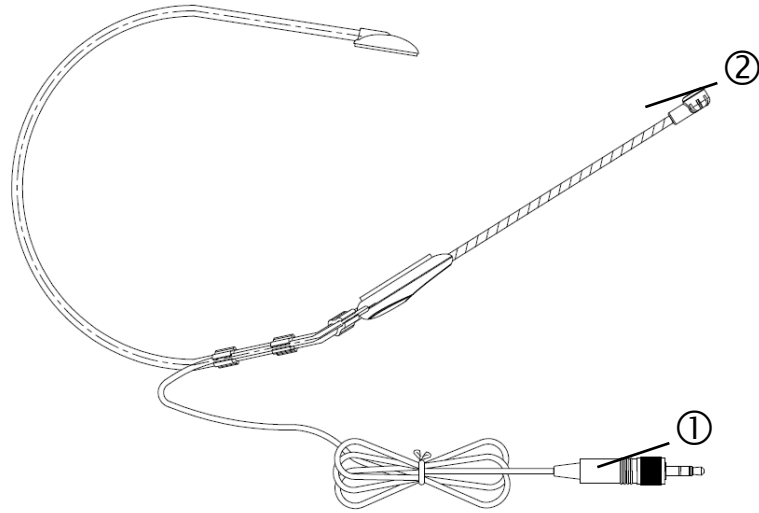

Figure 2.5
2.4 MUD-806 Headset Microphone. (as shown in figure 2.5)